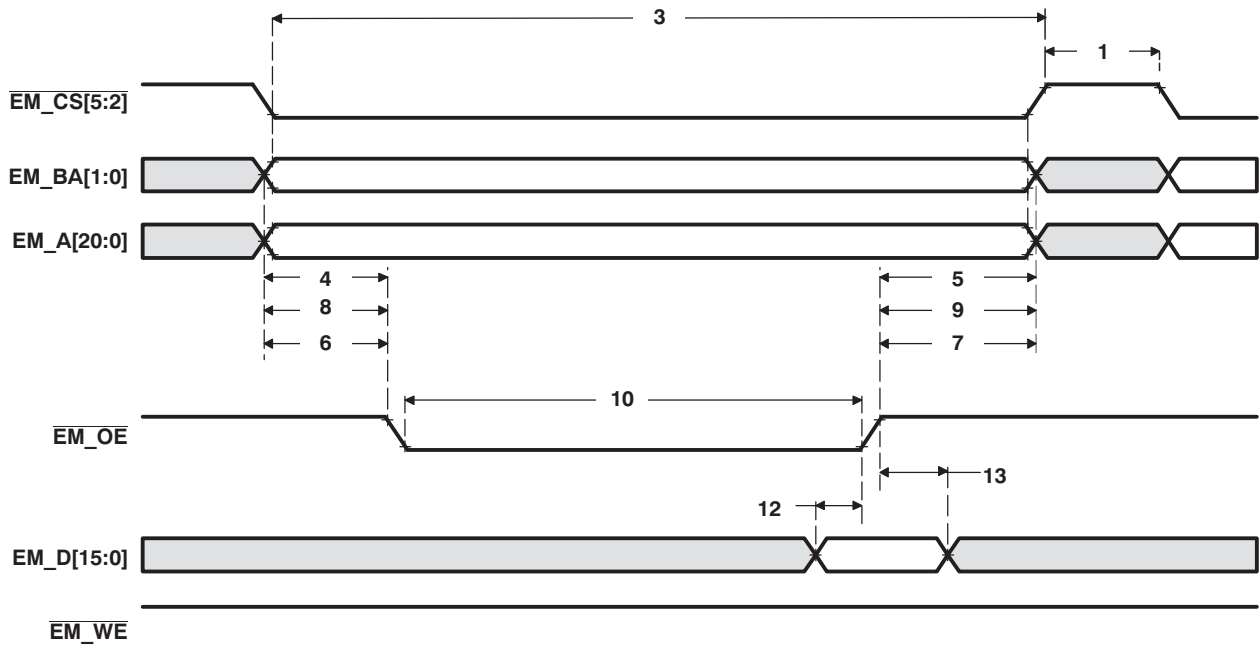
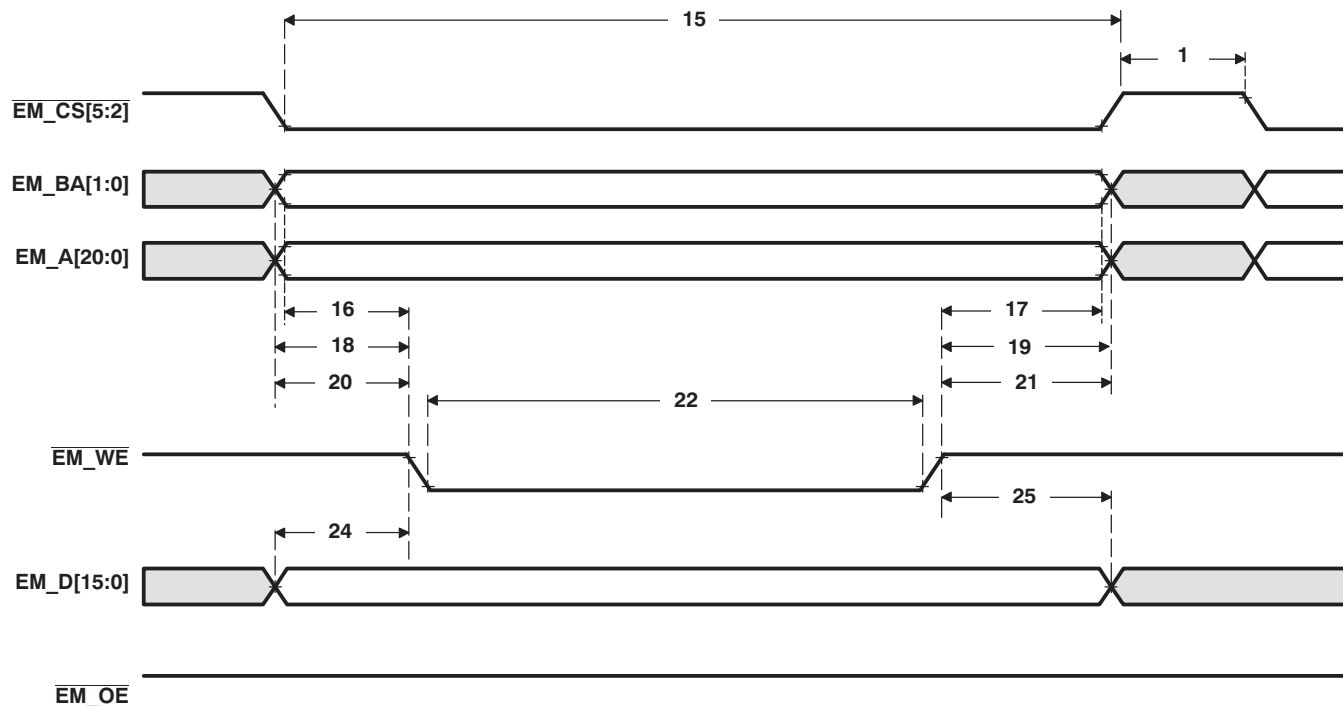
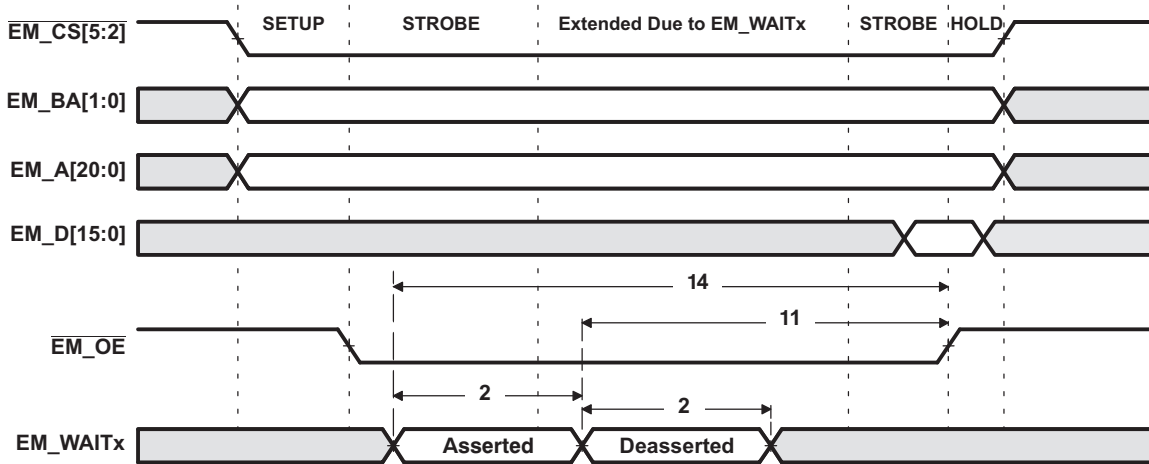
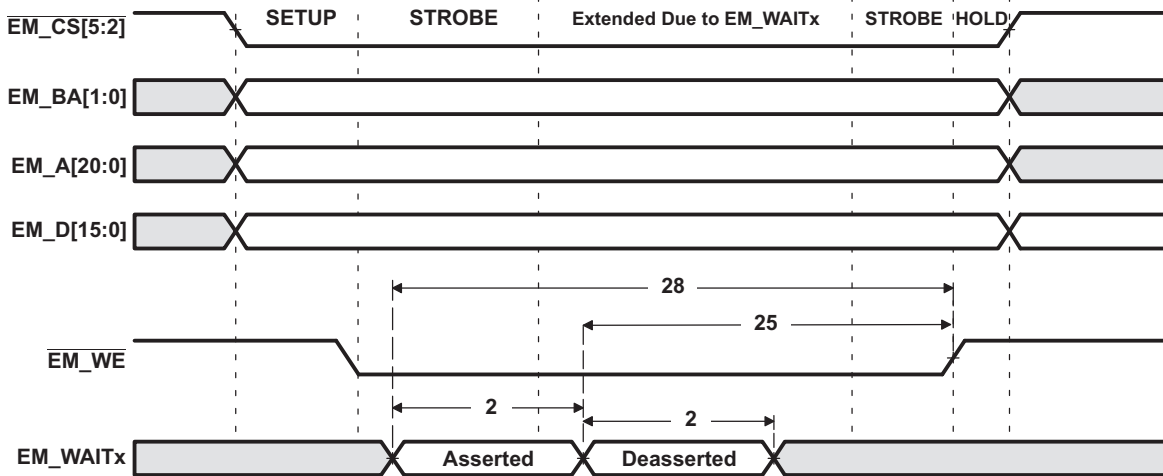

Figure 5-18. Asynchronous Memory Read Timing for EMIF
Figure 5-19. Asynchronous Memory Write Timing for EMIF
Figure 5-20. EM_WAITx Read Timing Requirements
Figure 5-21. EM_WAITx Write Timing Requirements
(1) Timing parameters are obtained with 10pF loading on the EMIF pins.
(2) TA = Turn around, RS = Read setup, RST = Read strobe, RH = Read hold, WS = Write setup, WST = Write strobe, WH = Write hold, MEWC = Maximum external wait cycles. These parameters are programmed via the Asynchronous Configuration and Asynchronous Wait Cycle Configuration Registers.
(3) E = SYSCLK period in ns. For example, when SYSCLK is set to 100/120 MHz, E = 10/8.33 ns, respectively.
(4) EWC = external wait cycles determined by EM_WAITx input signal. EWC supports the following range of values EWC[256-1]. Note that the maximum wait time before timeout is specified by bit field MEWC in the Asynchronous Wait Cycle Configuration Register.
Table 5-15. Switching Characteristics Over Recommended Operating Conditions for EMIF Asynchronous Memory^{(1)(2) (3)} (see Figure 5-19 and Figure 5-21)⁽⁴⁾ (continued)
Table 5-18. Timing Requirements for EMIF Asynchronous Memory⁽¹⁾⁽²⁾ (see Figure 5-18, Figure 5-20, and Figure 5-21)
(2) E = SYSCLK period in ns. For example, when SYSCLK is set to 100/120 MHz, E = 10/8.33 ns, respectively.
(3) Setup before end of STROBE phase (if no extended wait states are inserted) by which EM_WAITx must be asserted to add extended wait states. Figure 5-20 and Figure 5-21 describe EMIF transactions that include extended wait states inserted during the STROBE phase. However, cycles inserted as part of this extended wait period should not be counted; the 4E requirement is to the start of where the HOLD phase would begin if there were no extended wait cycles.
Table 5-19. Switching Characteristics Over Recommended Operating Conditions for EMIF Asynchronous Memory^{(1)(2) (3) (4)} (see Figure 5-18, Figure 5-20, and Figure 5-21)
Table 5-19. Switching Characteristics Over Recommended Operating Conditions for EMIF Asynchronous Memory^{(1)(2) (3) (4)} (see Figure 5-18, Figure 5-20, and Figure 5-21) (continued)